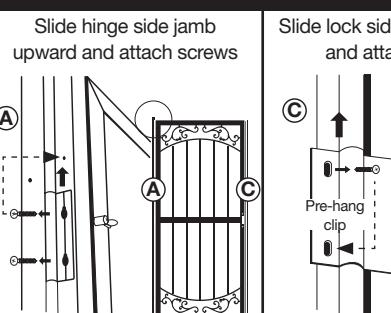

Fig. 10
Fig. 10 - From lock side of the door, remove the Phillips-head screw from each pre-hang clip (**DO NOT REMOVE PLASTIC CLIP FROM DOOR**). Slide lock side Z-bar jamb (C) toward what is now the bottom of the door to the next pre-drilled hole below; replace the Phillips-head screws in each of the two pre-hang clips but do not tighten.